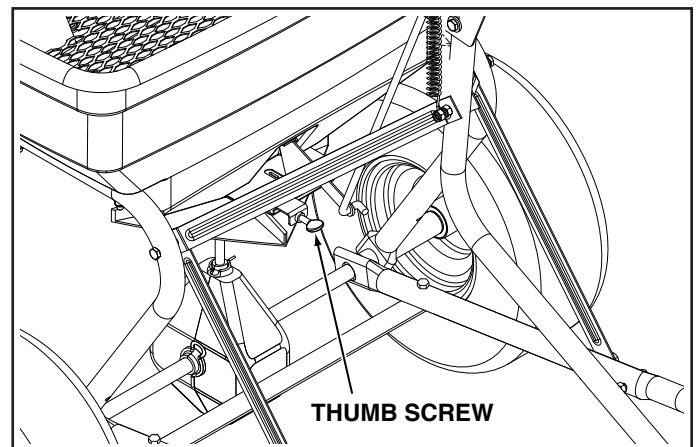

FIGURE 18
- To adjust the flow to be heavier to the left side, tighten the thumbscrew so the plate will not pull out as far. See figure 18.
- To adjust the flow to be heavier to the right side, loosen the thumbscrew so the plate will pull out farther. See figure 18.